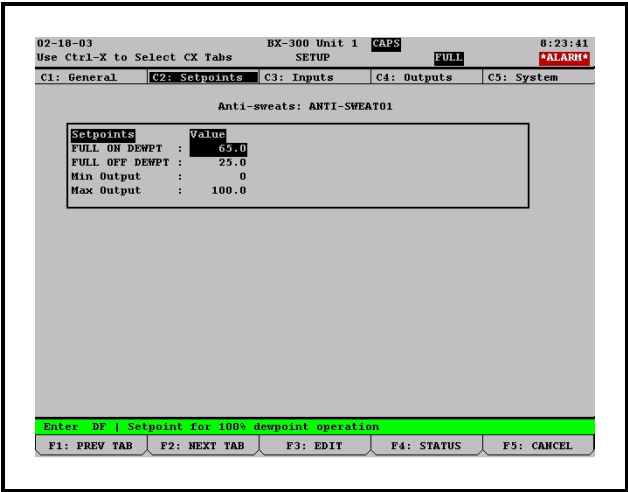

Figure 3-3 - Anti-Sweat Setpoints Setup Screen
4. Press **F2** (NEXT TAB) to advance to the Setpoints Setup screen. (*Figure 3-3*).